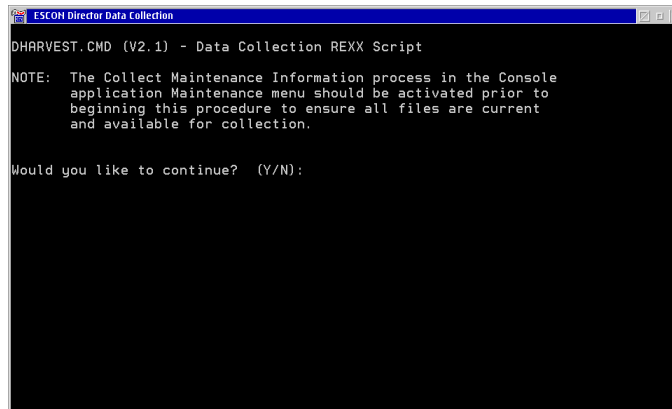

Figure 2-35. ESCON Director Data Collection Window
- c. Double-click the *ESCON Director Data Collection* icon. The *ESCON Director Data Collection* window appears (Figure 2-35).